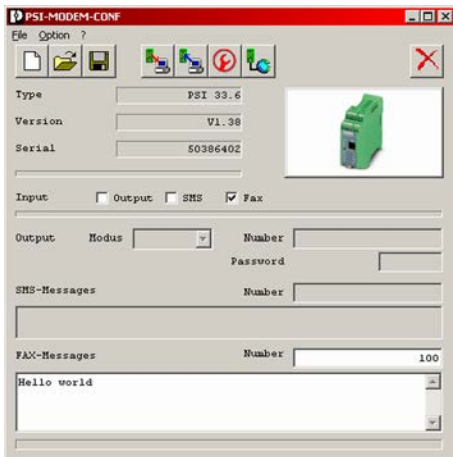

Fig. 206: Phone number/text setting
3. The phone number and the text can be set as required ( Fig. 206).